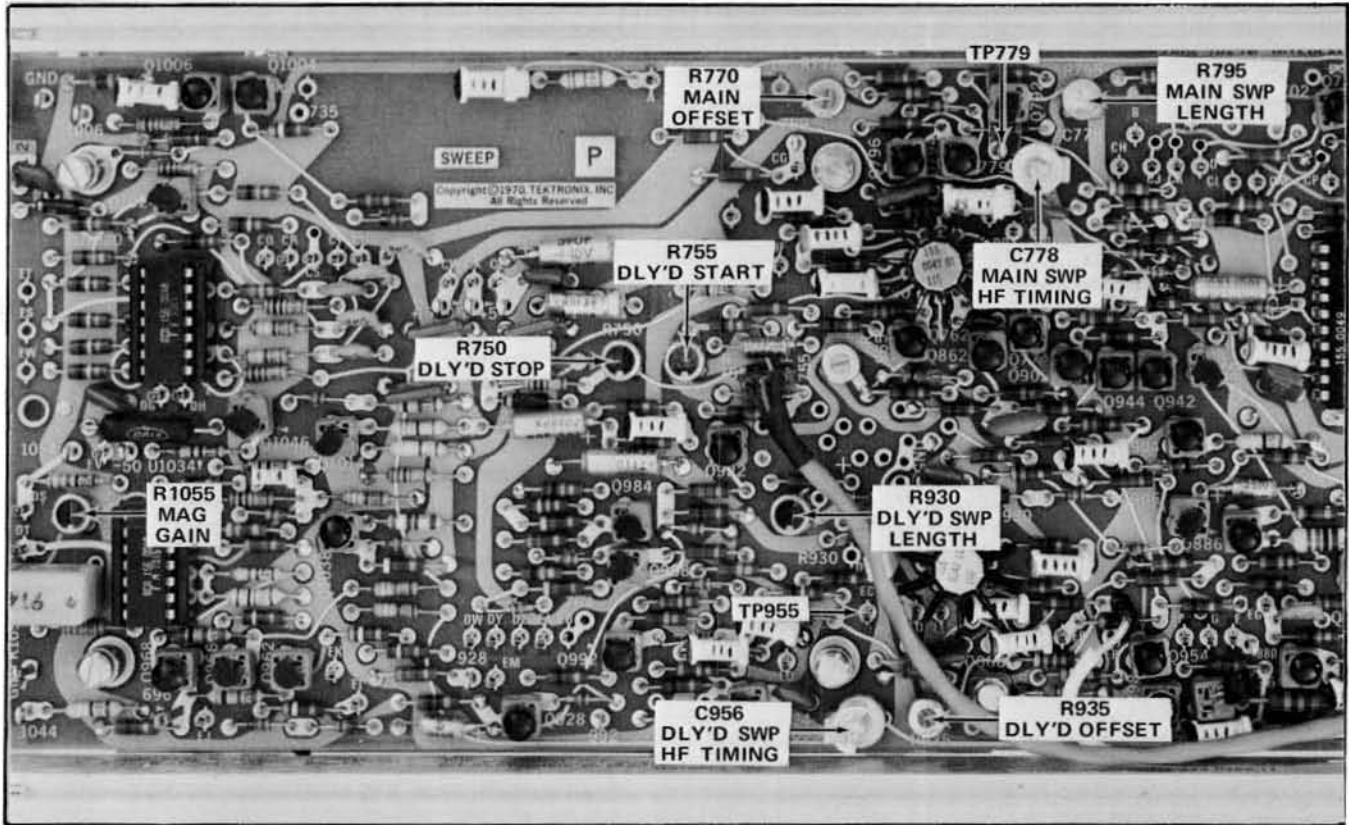

Fig. 5-3. Location of Horizontal System adjustments (Sweep board).
d. ADJUST—Mag Gain control R1055 (see Fig. 5-3) for one marker each division. The second and tenth markers must coincide exactly with their respective graticule lines (reposition display slightly with the horizontal POSITION control if necessary).
d. ADJUST—Main Swp Length control R795 (see Fig. 5-3) for four 0.1 millisecond markers to the right of the center vertical graticule line.
i. ADJUST—Dly'd Swp Length control R930 (see Fig. 5-3) for four 10 microsecond markers to the right of the center vertical graticule line.
e. ADJUST—Main Swp HF Timing control C778 (see Fig. 5-3) for one marker each vertical graticule line.
i. ADJUST—Dly'd Swp HF Timing control C956 (see Fig. 5-3) for one marker each division. Use the POSITION control as necessary to align the display.
e. Connect a 10X probe from the 7A18 Ch 1 Input to TP779 (see Fig. 5-3).
g. ADJUST—Main Offset Zero control R770 (see Fig. 5-3) to start the display at CRT center (zero volts).
h. Disconnect the 10X probe from TP779 and connect it to TP955 (see Fig. 5-3).
j. ADJUST—Dly'd Offset Zero control R935 (see Fig. 5-3) to start the display at CRT center.